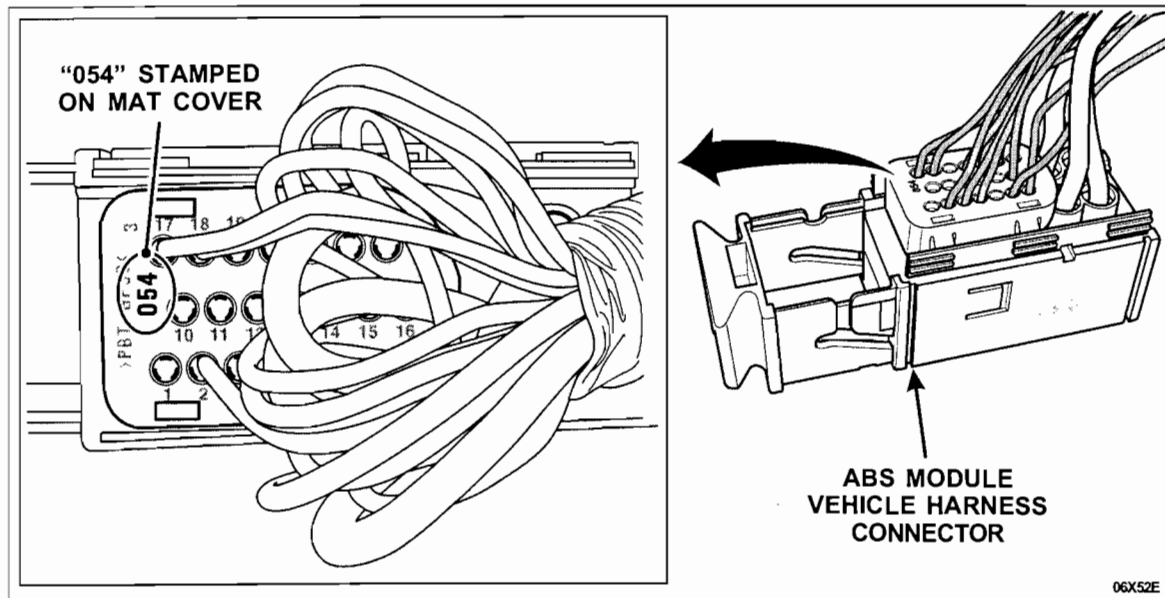

FIGURE 5
7. Verify the numbers "054" are stamped on the slide-lock end of the mat cover (wipe the mat cover clean if necessary to view). See Figure 5.